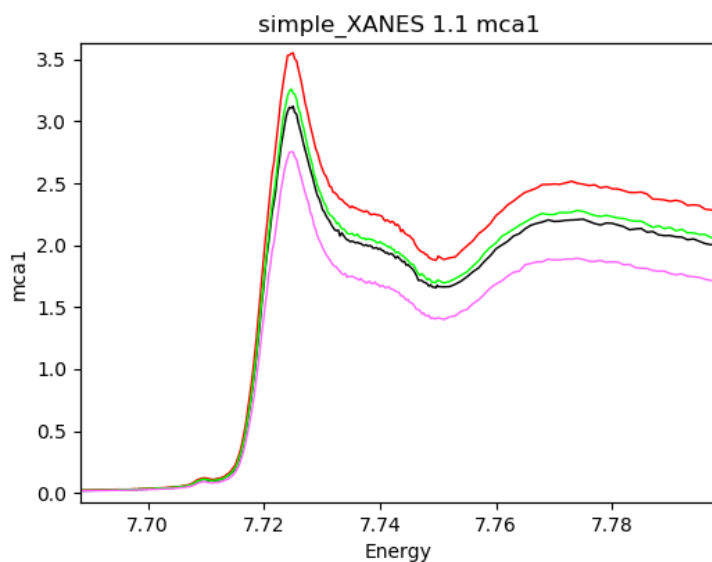

Figure 1-10: By just plotting lines we can see much more detail in the plots.
- 12) Since we want to see small details in these spectra, having the data plotted with big dots at every data point is suboptimal. Thankfully we can change this easily in PyMCA by clicking on the "Toggle Points/Lines" button in panel D (). You may need to click this a few times, but eventually you should get to a plot with just lines (Figure 1-10).